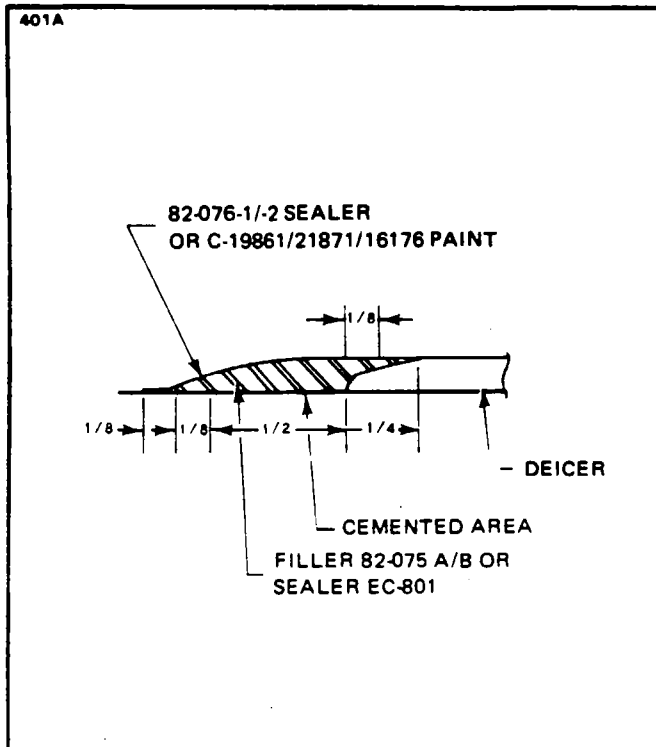

Figure 14-19. Sealer Application (Boot)
e. Locate masking tape approximately .125 inch beyond cemented area around deicer to allow application of filler directly to metal. Apply one even brush coat of 82-075A/B filler (or EC-801 sealer) over .125 inch of bare metal, cemented area and about .125 of an inch of deicer. (See Figure 14-19.)
g. Apply new masking tape approximately .125 of an inch beyond filler to allow application of sealer directly to metal. Apply one even brush coat of 82-076-1/2 sealer (or C19861 C-16176 paint) over .125 of an inch of bare metal, filled area and .250 of an inch of deicer. (See Figure 14-19.)